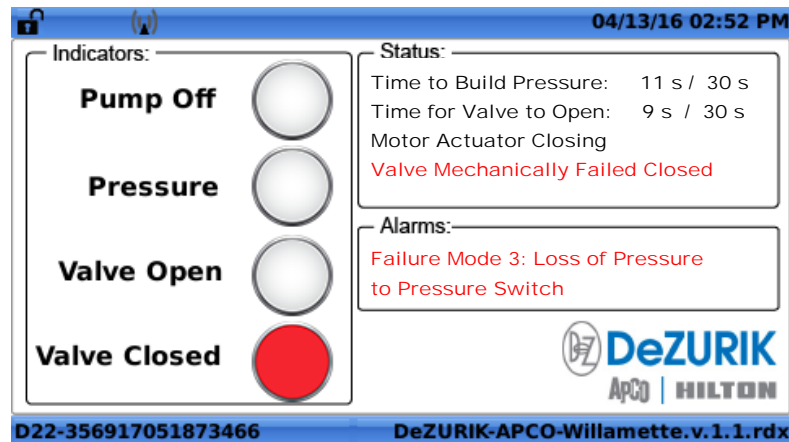

Figure 18B: ECB-CEM Controller Home Screen, Failure Mode #3.
5.4B For Electric Motor Operated Valves Model ECB-CEM (Figure 18B)